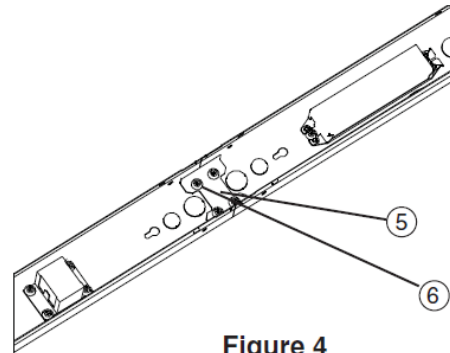

Figure 4
10. **Attach continuous row bracket (9)** as seen in Figure 4.